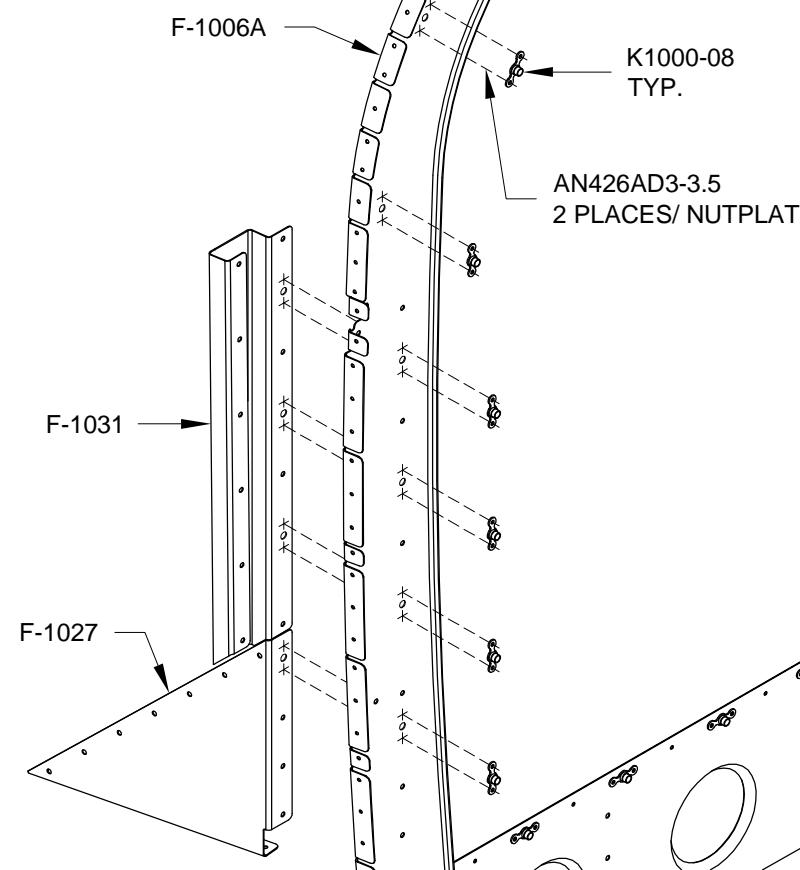

FIGURE 1: ATTACHING NUTPLATES TO THE F-1006 BULKHEAD AND BAGGAGE BULKHEAD CHANNEL
Step 1: Match-Drill #40 the nutplate attachment rivet holes for all the nutplates shown in Figure 1 into the F-1006A, C, and D Bulkheads and into the F-1028 Baggage Bulkhead Channel. Deburr the holes.
Step 3: Rivet the nutplates shown in Figure 1 to the F-1006A, C, and D Bulkheads and to the F-1028 Baggage Bulkhead Channel using the rivets called out.